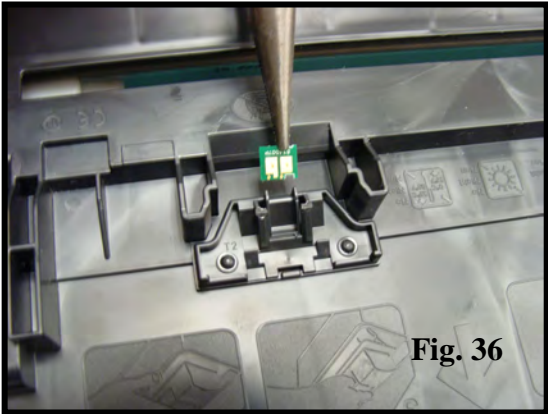

Fig. 34
34. Place the drum section onto the toner hopper and secure with the two end caps (Fig. 34). Reinstall the shutter door to the cartridge.